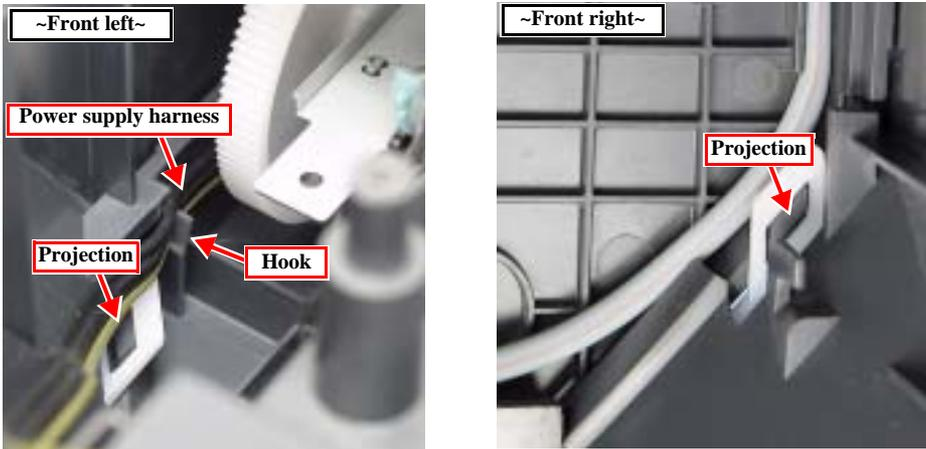

Figure 4-25. Checking the installation of the Middle Housing
- The right and left openings at the front bottom of the Middle Housing are properly engaged with the projections of the Bottom Housing. (Fig. 4-25)
- The power supply harnesses (black and yellow) are fastened properly. (Fig. 4-25)